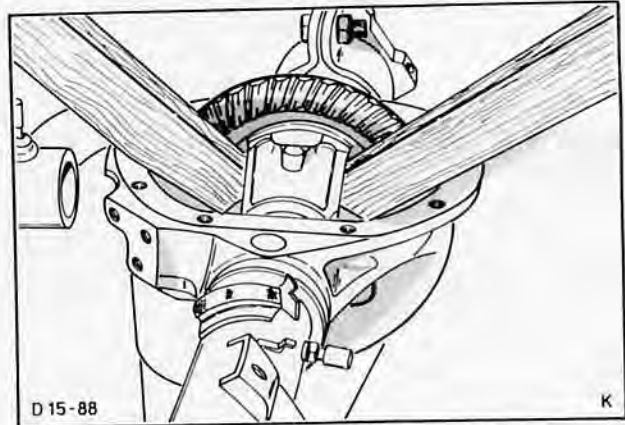

Fig. 57. Lift out differential with two hardwood wedges
3. Remove differential—to do this, detach both bearing caps (4 bolts) and lift differential out of axle casing with two pointed square section pieces of wood, Fig. 57.